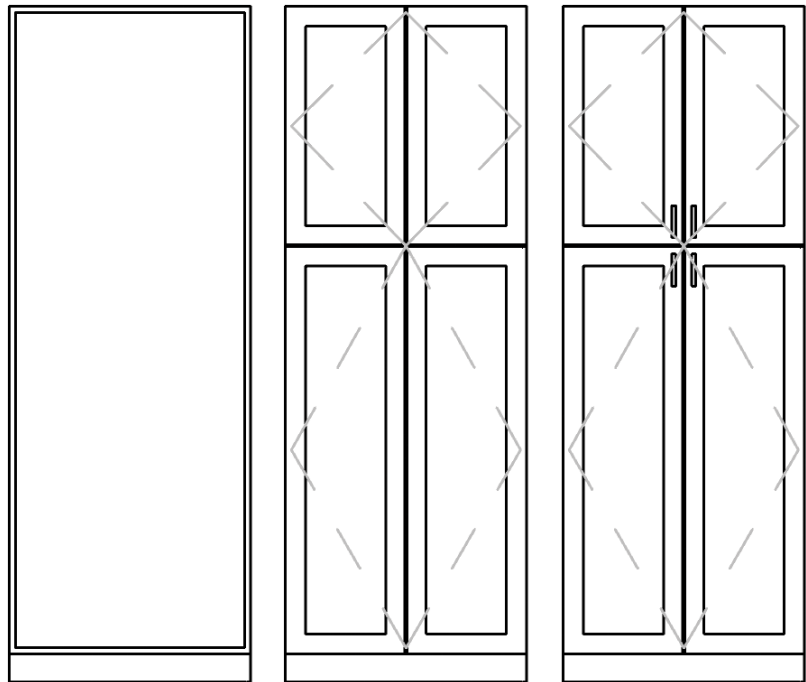

FIGURE 6.11 Cabinet appearances for detail levels
10. Back in the project the last step is to open the Cabinet elevation view where you can see the front of the cabinet. Change the detail level to Coarse. The cabinet lines, panels, and hardware should not be visible. Change the detail level to Medium, and you should see panels plus the dashed lines. Change the detail level to Fine, and you should also see the hardware (Figure 6.11).